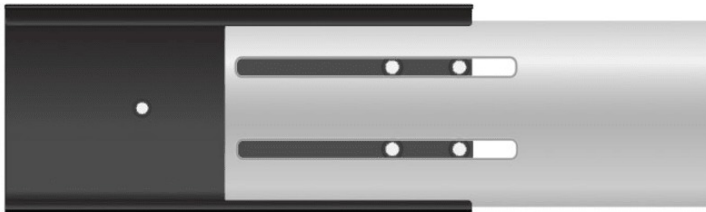

Figure 2.1h
7. Before securing the rear rail extension to the back of your rack, make sure to slide the extension into the rail as seen in Figure 2.1h.